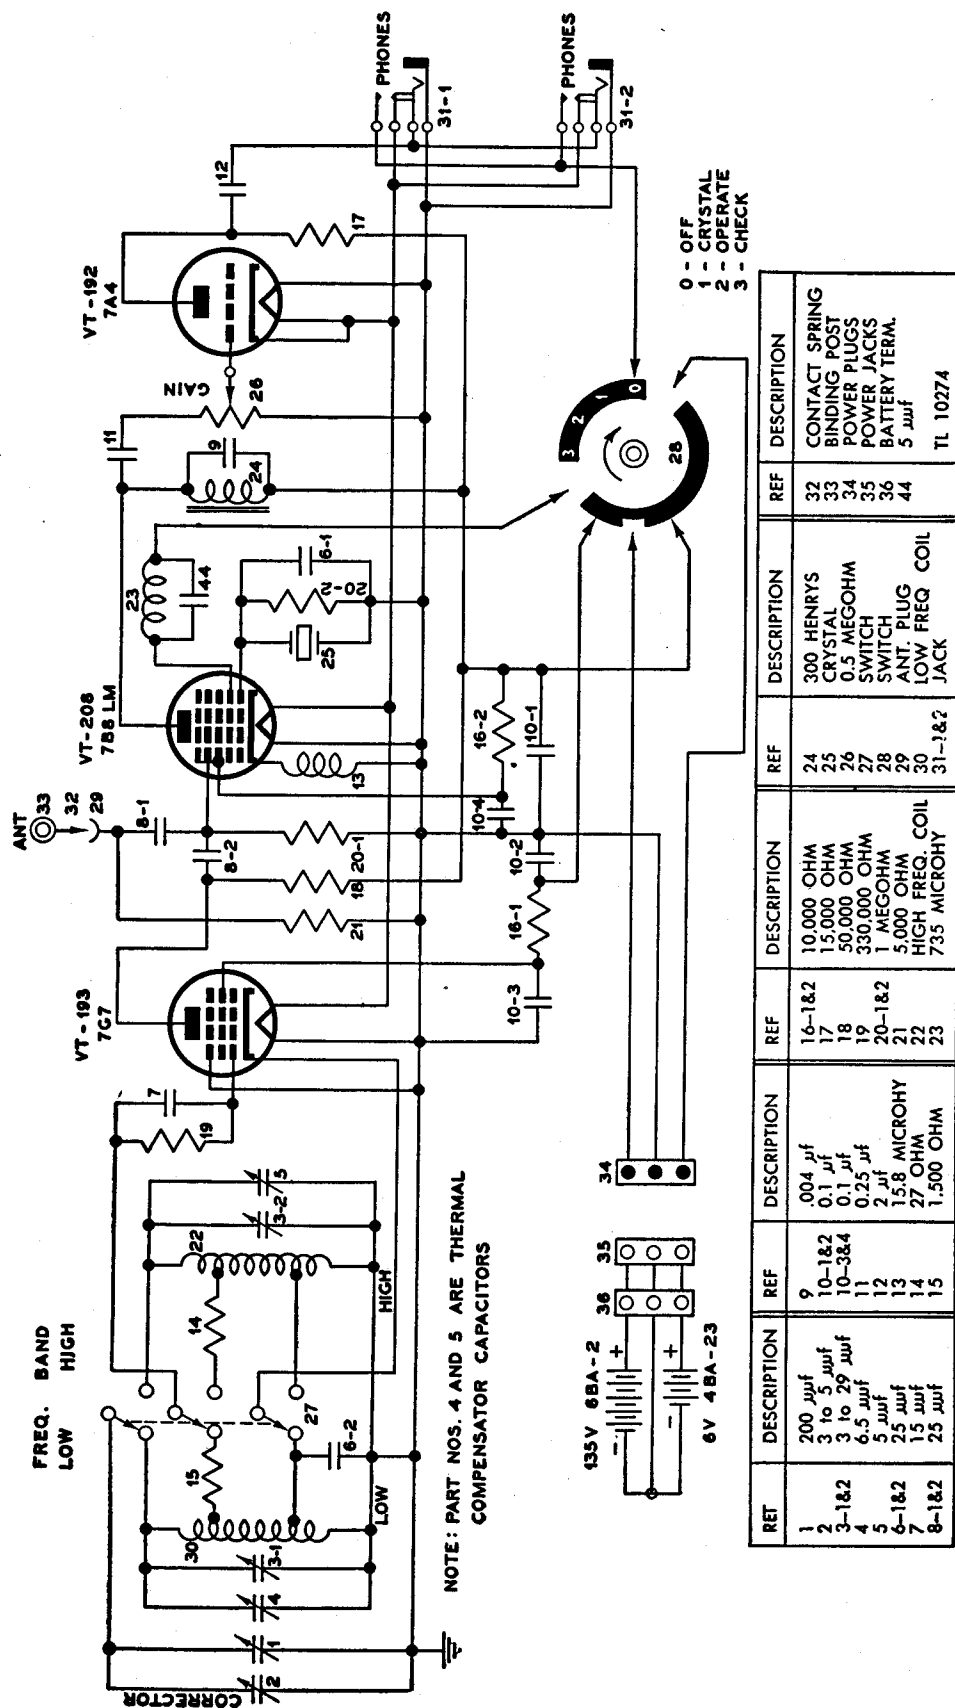

Figure 49. Frequency Meter BG-221-E, schematic diagram.
e. **OSCILLATOR FUNCTION.** (1) The variable frequency oscillator circuit is in operation at the CHECK and OPERATE positions of the operation switch 28. (See fig. 49.)
(2) At the CHECK position, the output of oscillator Tube VT-193 (7G7) is applied to one of the grids of detector-converter Tube VT-208 (7B8LM) where it is mixed with the output frequency of the crystal circuit. The result is a frequency equal to the difference of the two, and is used to adjust the frequency of the oscillator by means of the CORRECTOR control.
(3) At the OPERATE position, the variable frequency oscillator is in operation, while the crystal oscillator is not. If the antenna is in position, the frequency meter may be used to receive or send any frequency in its range, that is, it may be used as a radio receiver or transmitter.
116. Power Supply Circuit (fig. 49)